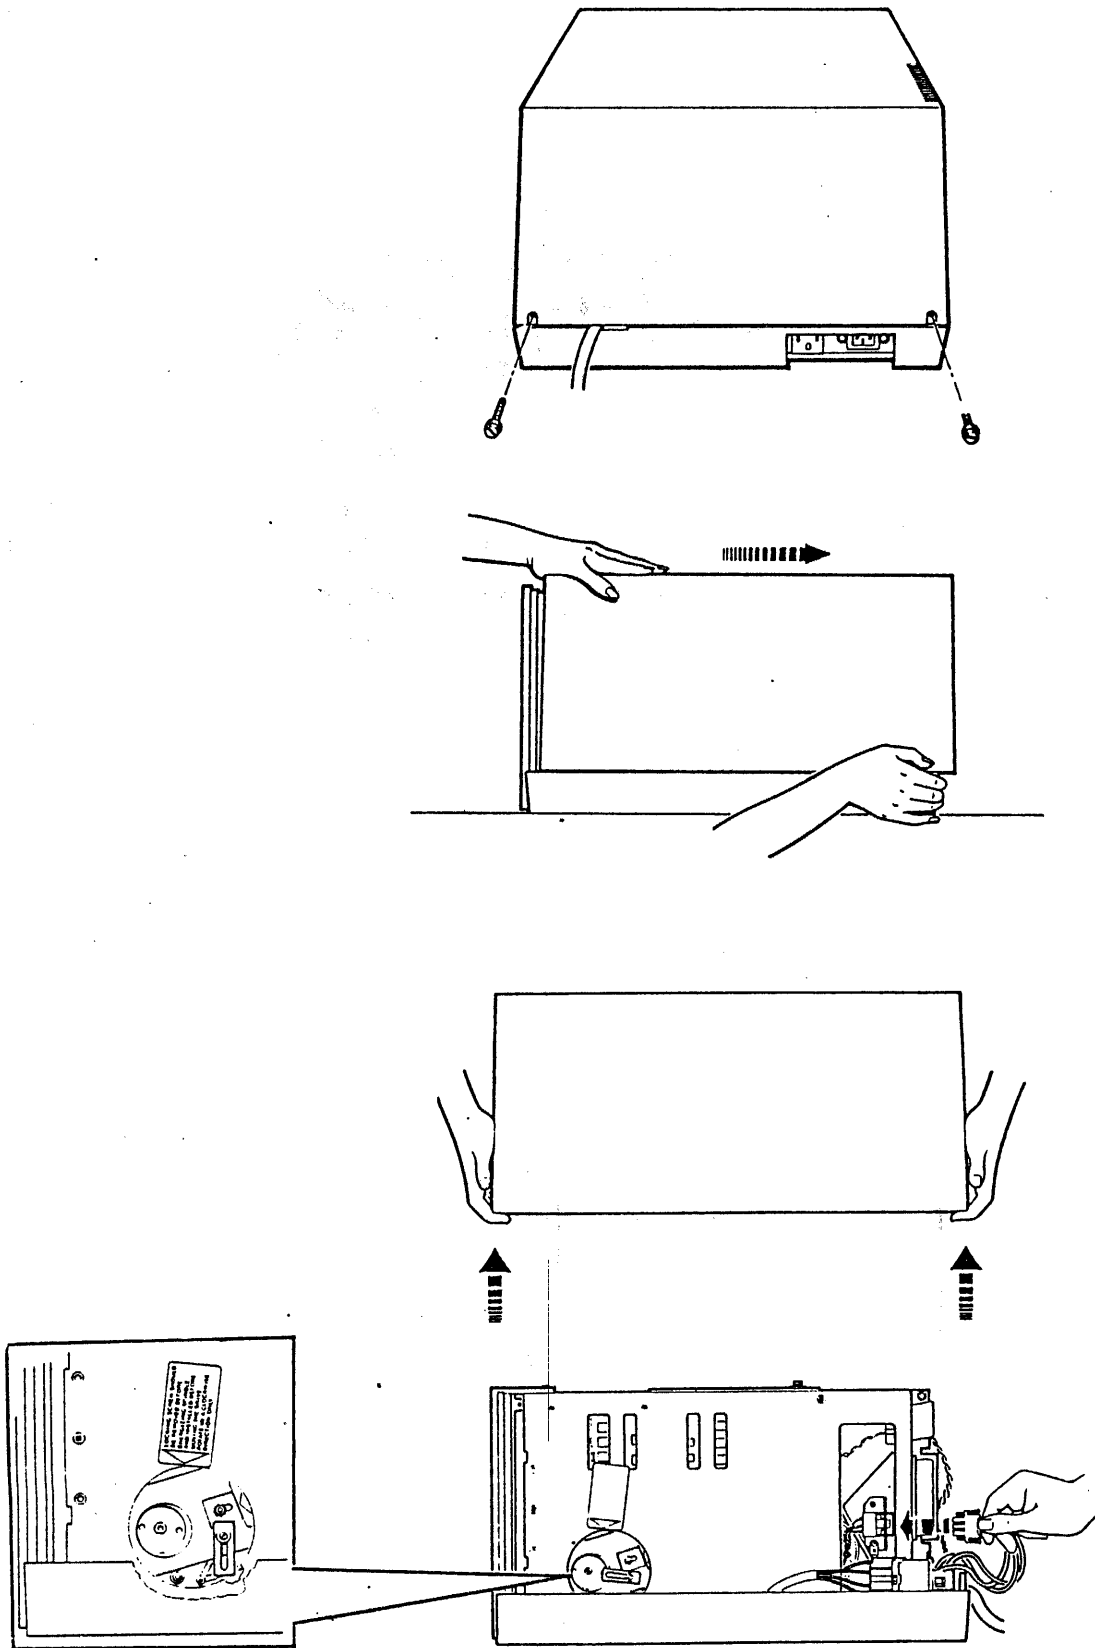

Figure 2-1 Fixed Drive Assembly (8")
2. Slide top cover to rear, then lift cover off.(Fig. 2-1)
3. With the top cover removed the two disk drives should now be exposed. The fixed drive is the outermost with the floppy drive between it and the Power Supply. As you stand facing the left-hand side of the unit (outer case of hard disk), note the circular aperture in the hard disk's cage, exposing an aluminum spindle hub (Figure 2-1). A fingered flange is inserted into a hole in this spindle hub. The fingered flange is a shipping restraint, called a spindle lock, which MUST be removed before power is applied to unit.
5. Unscrew and remove the spindle lock. Invert it so the protruding finger faces outwards towards you, then screw it in this position (finger facing out) to the disk drive case in order not to lose it.(Fig. 2-1)
6. When you have inverted the spindle lock, walk around behind the unit again. A white translucent jack (Figure 2-1) mounted in a metal standoff will be visible from the rear of the Winchester disk drive. This is a AC cable jack. A plug which obviously mates to this jack should also be visible at the end of a cable running from the rear of the floppy disk drive. Press the plug into the Winchester drive jack, making certain they are securely mated.(Fig. 2-1)
9. Replace the top cover Do the reverse of removing the top cover, (Fig. 2-1). The long interlock screw should be placed in the left hand hole of the top cover when viewed from the rear.